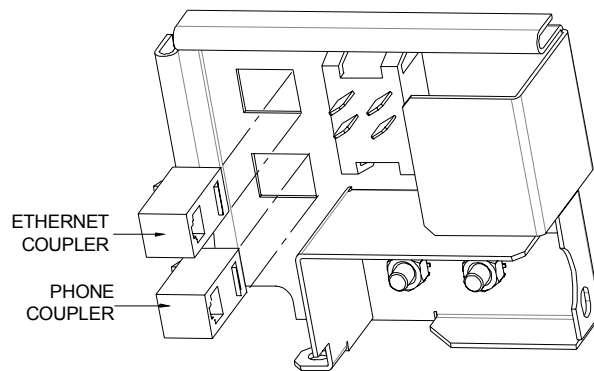

FIGURE 16 - MAXX SELECT/SLIM MAXX - COUPLER INSTALLATION
- If your game has horizontally oriented access holes on the power entry assembly, see MAXX B - Figure 16.*
MAXX B: Orient the supplied, snap-in Ethernet coupler and insert it into the upper access hole. Then orient the supplied, snap-in phone coupler and insert it into the lower access hole. See Figure 16.